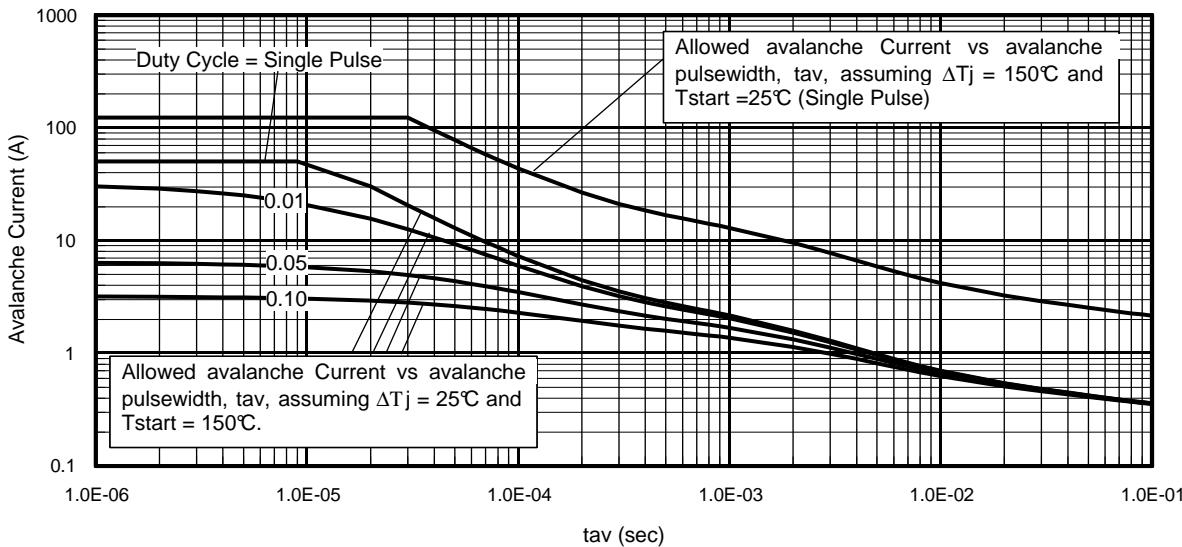

Fig 15. Typical Avalanche Vs.Pulsewidth
**Notes on Repetitive Avalanche Curves , Figures 15, 16:
7. ΔT = Allowable rise in junction temperature, not to exceed T_{jmax} (assumed as 25°C in Figure 15, 16).